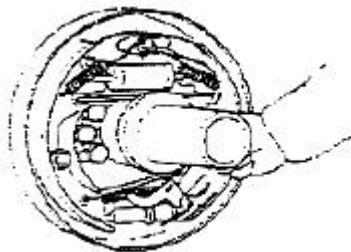
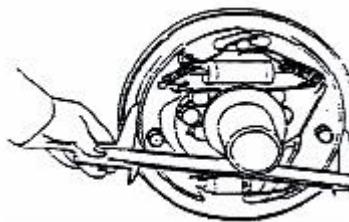

Figure 11
figure 12
(8)Install brake shoe guide to support pin and then install brake shoe return spring, Install the main hoof first, and then the auxiliary hoof, As shown in figure 11
(9) Install adjuster, adjuster spring, ejector pin, ejector return spring ,pls pay attention to following point :
(10) Connect the brake tubing to the sub pump
(11) Measure the inner diameter of the brake drum ,the out diameter of the brake shoe ,and adjust the adjuster to make sure the difference between the inner diameter of brake drum and the outer diameter of friction plate of the brake shoe is 0.01"-0.2",as figure 12 shows .